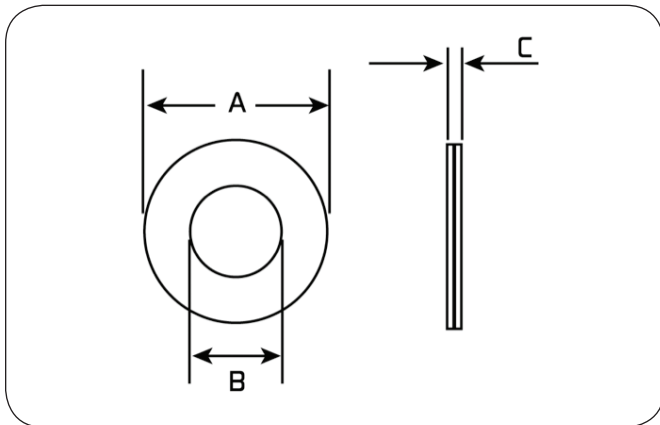

Figure 2. PPTC key measurements inside a cap assembly include (A) outside diameter, (B) inside diameter, and (C) thickness.
The dimensions of the annular disc device are typically determined by the cell manufacturer and are based on how the device fits inside the cap assembly. As shown in Figure 2, the key measurements include: outside diameter (A), inside diameter (B) and thickness (C).